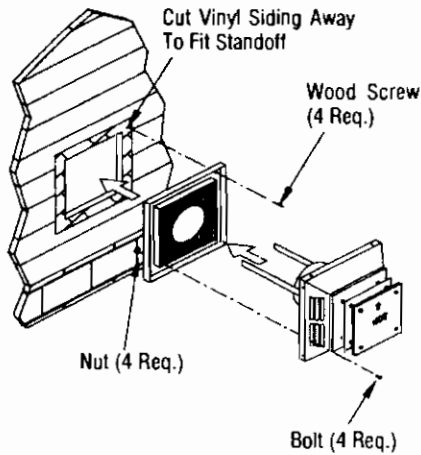

Figure 20
2. Venting termination shall not be recessed into a wall or siding. For buildings with vinyl sidings, a Vinyl Siding Standoff (Dura Vent Part No. 950) should be installed between the vent cap and the exterior wall (Figure 20). Attach the Vinyl Siding Standoff to the Horizontal Vent Termination. The Vinyl Siding Standoff prevents excessive heat from possibly melting the vinyl siding material.